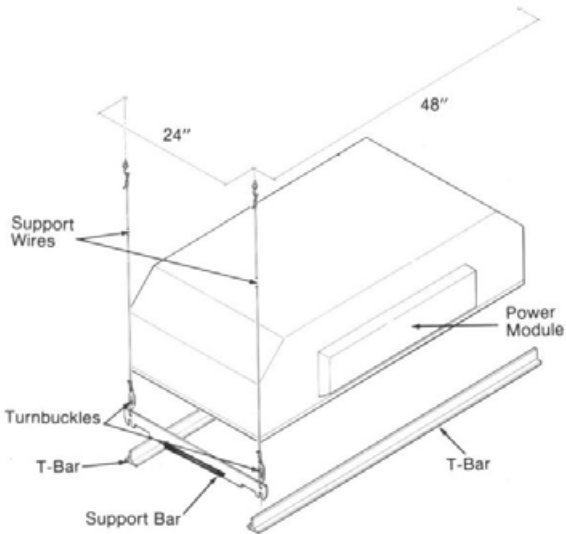

Figure 10 - X-11Q Support Bar Placement
1. Attach four 12-gauge, galvanized steel support wires to the true ceiling at the location shown in Figures 10 and 11. Twist each wire at least four times to provide safe support for the air cleaner. The free end of each wire should extend six inches or more below the bottom of the T-bars.
2. At the end of each opening, set a support bar across the T-bars. The "J" shaped portion of the support bars should be oriented so the hook side of the "J" is toward the opening (not toward the adjacent T-bars). See Figures 10 and 11.
4. Hook the turnbuckles to the support bars and then secure the support wires to the eyes of the turnbuckles (see Figures 10 and 11). Twist the wire at least four times.